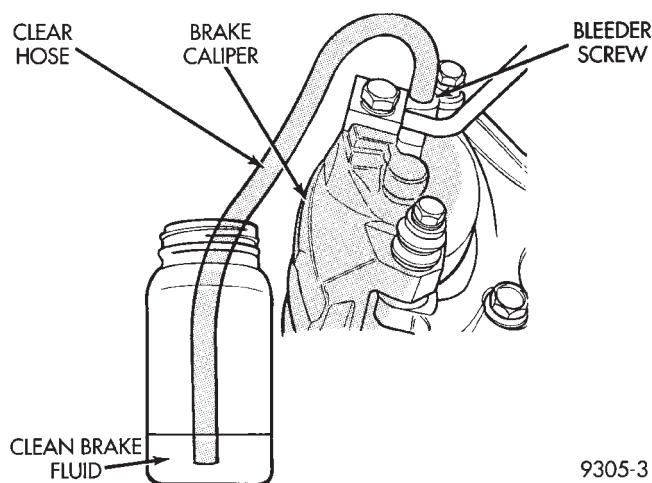

**Fig. 30 Proper Method for Purging Air From Brake System (Typical)**
(1) Attach a clear plastic hose to the bleeder screw starting at the right rear wheel and feed the hose into a clear jar containing enough fresh brake fluid to submerge the end of the hose (Fig. 30).
(2) Pump the brake pedal three or four times and hold it down before the bleeder screw is opened.
(3) Open the bleeder screw at least 1 full turn. When the bleeder screw opens the brake pedal will drop.
(4) Close the bleeder screw. Release the brake pedal only **after** the bleeder screw is closed.
(5) Repeat steps 1 through 3, four or five times at each bleeder screw. Then check the pedal for travel. If pedal travel is excessive or has not been improved, enough fluid has not passed through the system to expel all the trapped air. Be sure to monitor the fluid level in the master cylinder reservoir. It must stay at the proper level so air will not be allowed to re-enter the brake system.
(6) Test drive vehicle to be sure brakes are operating correctly and that pedal is solid.